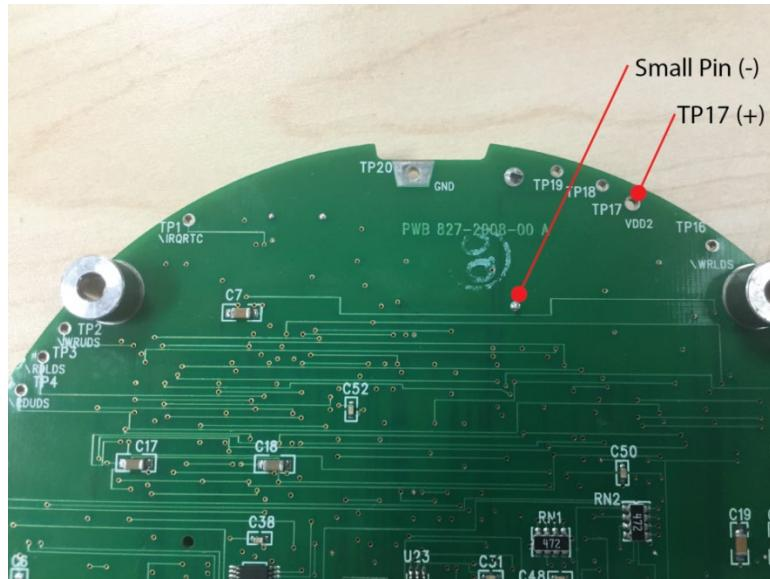

Figure 60. **Lithium Battery Test Points on the CPU Board**
5. Measure the voltage on the CPU board between TP17 (BAT+) and the small pin on the battery located on the back side of the CPU board (GND) (see Figure 60).